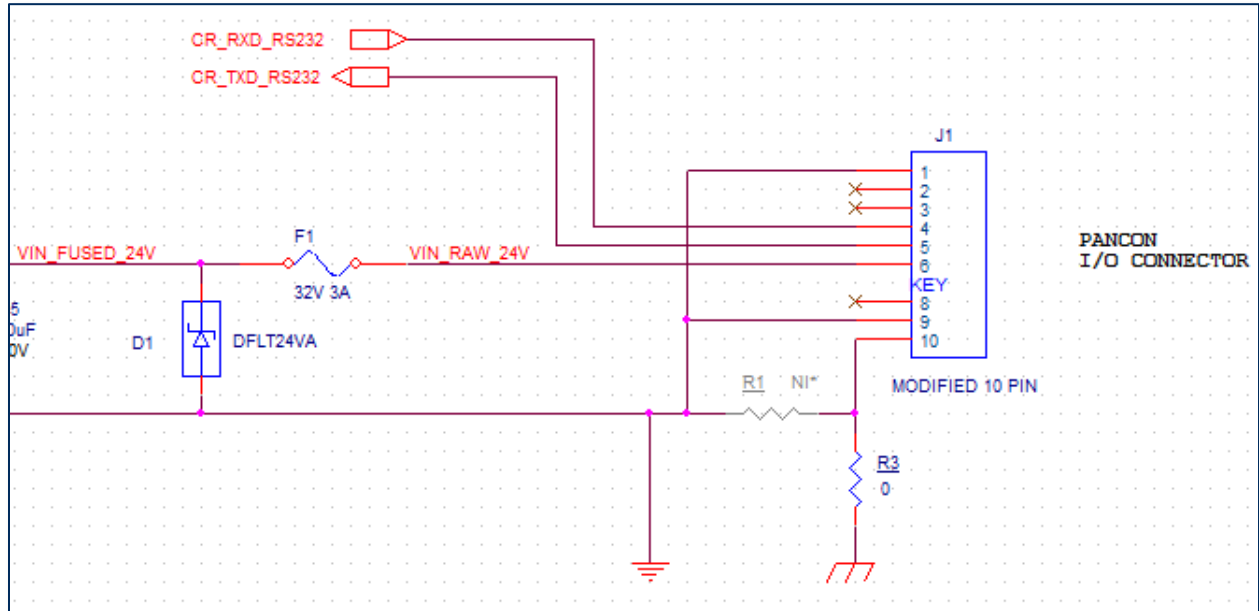
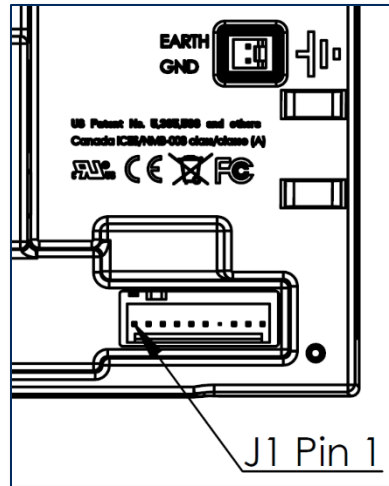

Figure 2-3 - oDynamo RS-232 and Power Port J1
Figure 2-4 - oDynamo J1 Pin 1 Location
The RS-232 and Power port **J1** must be connected to a power source and may be connected to an RS-232 host for bidirectional communication. It is a Pancon **MTSS100-10-CB** header designed to mate with a Pancon MAS-CON **CE100F22-10-CB** connector or equivalent. Pinouts and a schematic excerpt are shown in **Figure 2-3** and **Table 2-1**. Pin 1 is located nearest the front bezel, as shown in **Figure 2-4**.
The V_{in} and Digital Ground (SG) pins must be connected across the terminals of a power supply. V_{in} is protected by an internal (non-serviceable) 3A fuse, shown in **Figure 2-3**.